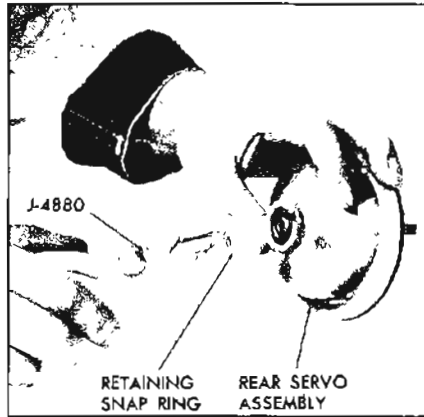

Figure 5-572
1. Remove snap ring retaining servo piston to band apply pin. See Figure 5-572.